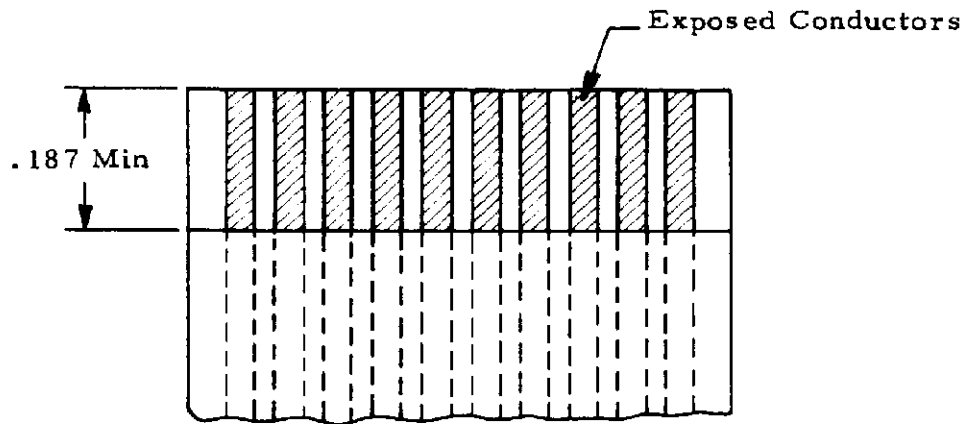

Figure 3
- (2) Cable or circuitry shall be stripped of insulation to expose conductors on one side only as indicated in Figure 3. Stripped conductors shall be cleaned of contaminants, films and residues. Conductors must extend to the end of the cable or substrate.